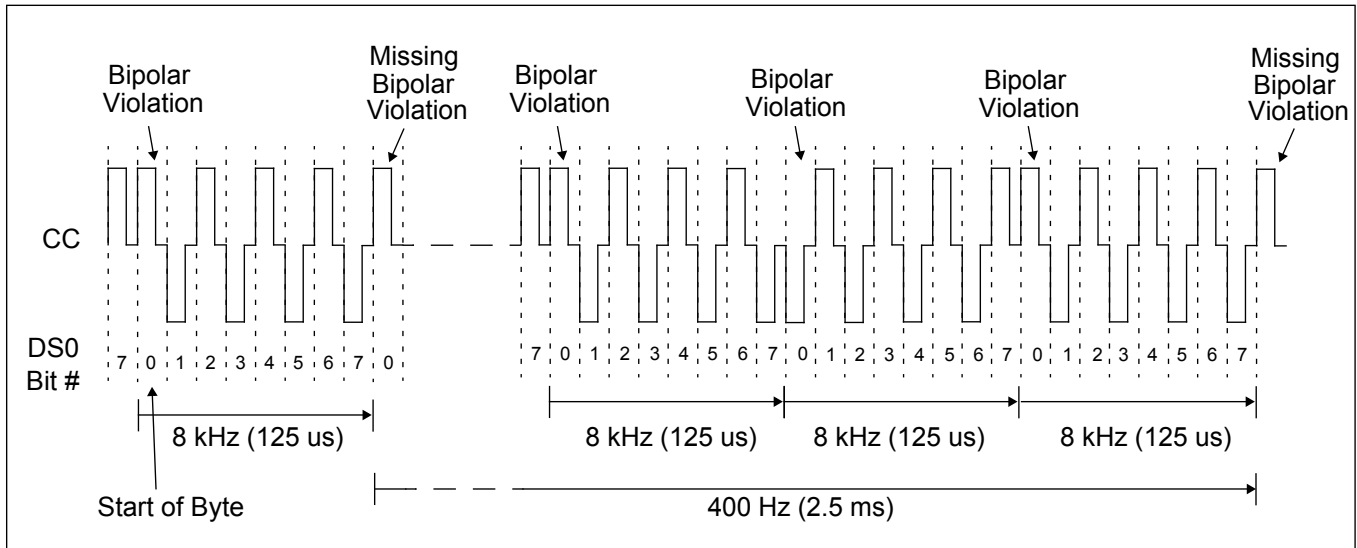

**Figure 8 - External Circuit for Converting a Bipolar CC Signal into Two Unipolar Signals**
The ZL30143 provides internal decoding logic necessary for extracting the 64 kHz reference clock and the 8 kHz frame pulse from the CC signal. It is capable of receiving two CC references using existing ref/sync input pins. One CC signal is received on the ref0/sync0 pins, and the other on the ref1/sync1 pins. Before interfacing the bipolar CC signal to the ref/sync pair, it must be separated into two unipolar signals using a simple external circuit as shown in Figure 8.